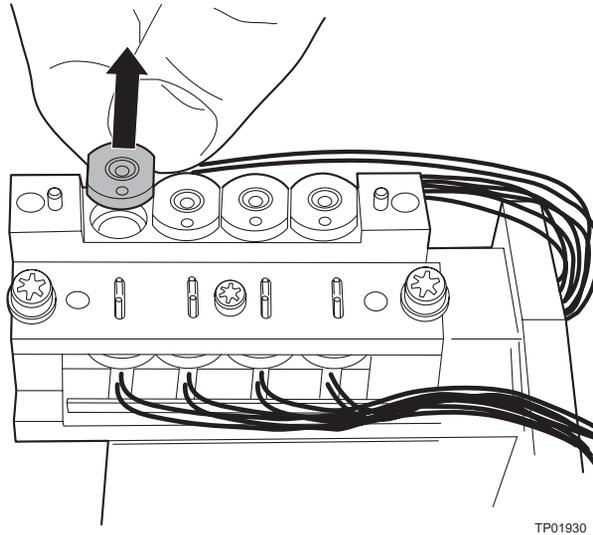

Figure 4-6 Removing the Flow Cell Cartridge from the Block
2. Remove the flow cell cartridge from the flow cell block. Follow the tubes to the manifold block (Figure 4-6).